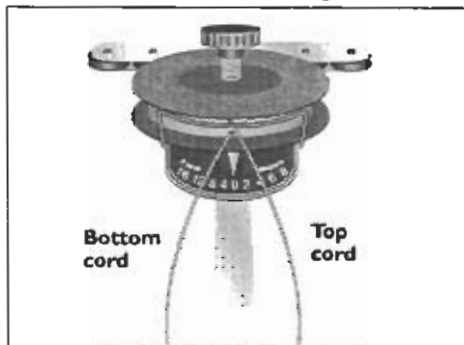

Figure 25
1. Remove the retaining clip using a 1/8-inch Allen wrench (Figure 25).